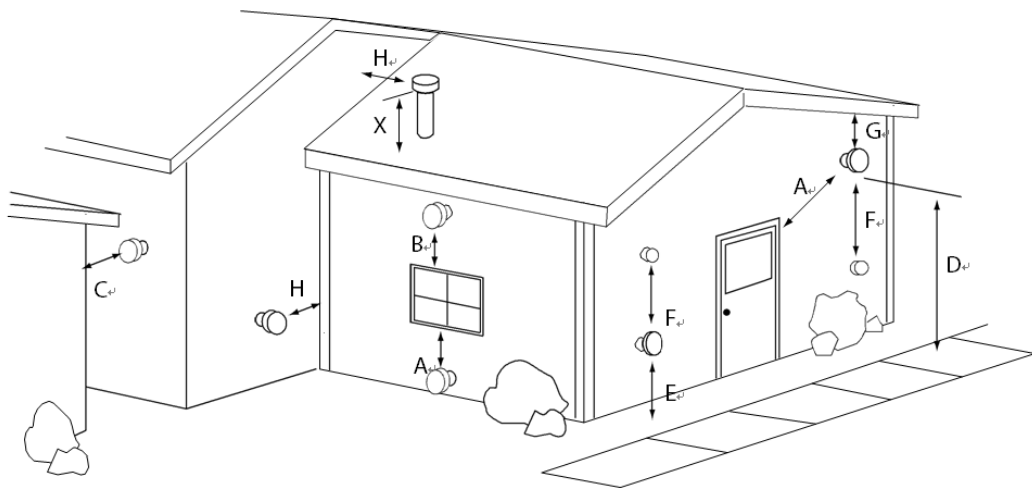

Figure 7: Vent Termination
- The stove vent must terminate on the outside of the building. Horizontal terminations must extend a minimum of 12" from the wall. Vertical terminations must protrude a minimum 24" from the roof surface. **In addition, all clearances listed below must be met. SEE FIGURE 7**